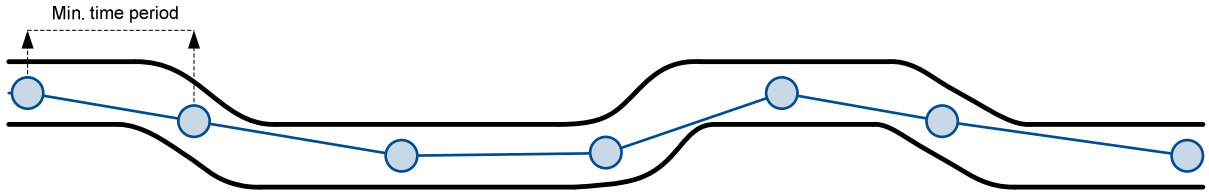

Figure 56 Time based tracking
**Time based data acquiring** (Figure 56) – records are being acquired every time when defined interval of time passes. Entering zero means that data will not be recorded according to time. This method is suitable best for basic position update.